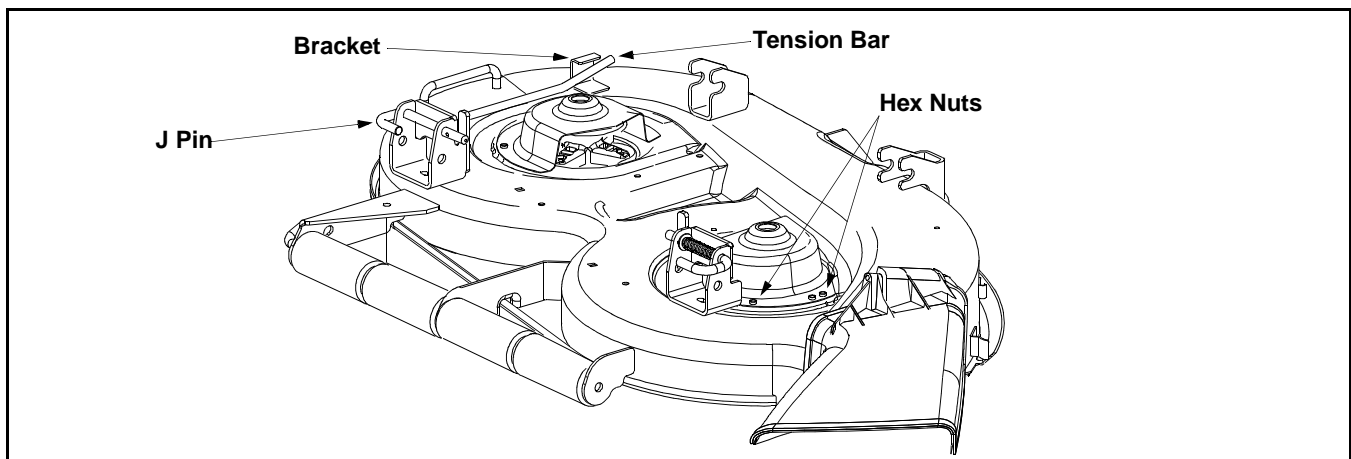

Figure 23
6. Push the tension bar out of the bracket. (See Figure 23)
8. Pull the J pin out until the end of the pin is past the bracket. (See Figure 23)